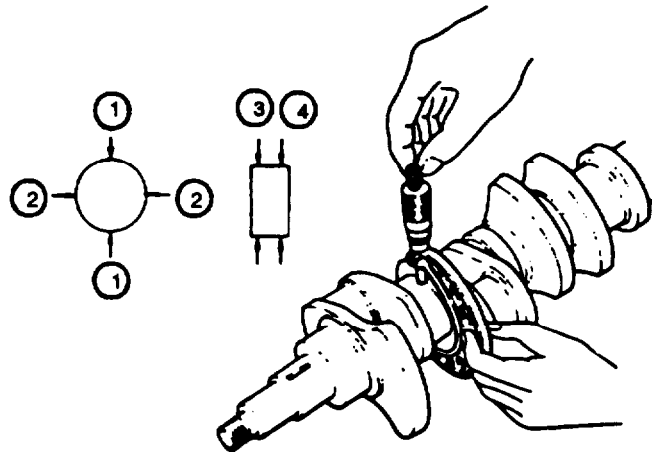

FIGURE 3-87. Crankshaft Journal and Crankpin Diameter
- (1) Using a micrometer, measure crankshaft journal diameter at two places, 180 degrees apart and at two points along its length, refer to FIGURE 3-87.
- (2) Repeat step (1) for crankpin.
- (3) Standard diameter for crankshaft journal is 2.7548 to 2.7533 in. (69.920 to 69.632 mm), with a limit of 2.7560 in. (69.95 mm). Standard diameter for crankpin is 2.0849 to 2.0854 in. (52.918 to 52.930 mm), with a limit of 2.0862 in. (52.95 mm). Uneven wear standard value is 0.00004 in. (0.001 mm), with a limit of 0.002 in. (0.05 mm).
- (4) If measured values are less than limits, crankshaft must be replaced or reground.